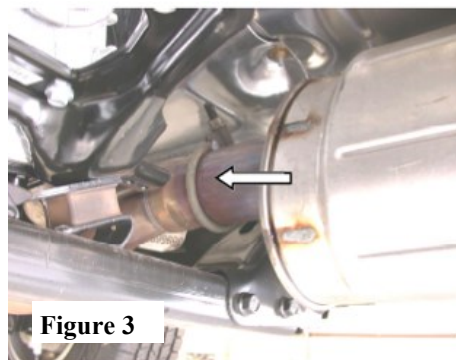

Figure 3
5. Unbolt the clamp The clamp may have grooved the pipe and it may require cutting for removal. Using a muffler stand or an additional person to hold the remaining exhaust up into position, remove the hangers from the rubber isolators and remove the remaining exhaust from the vehicle. (See fig.3)